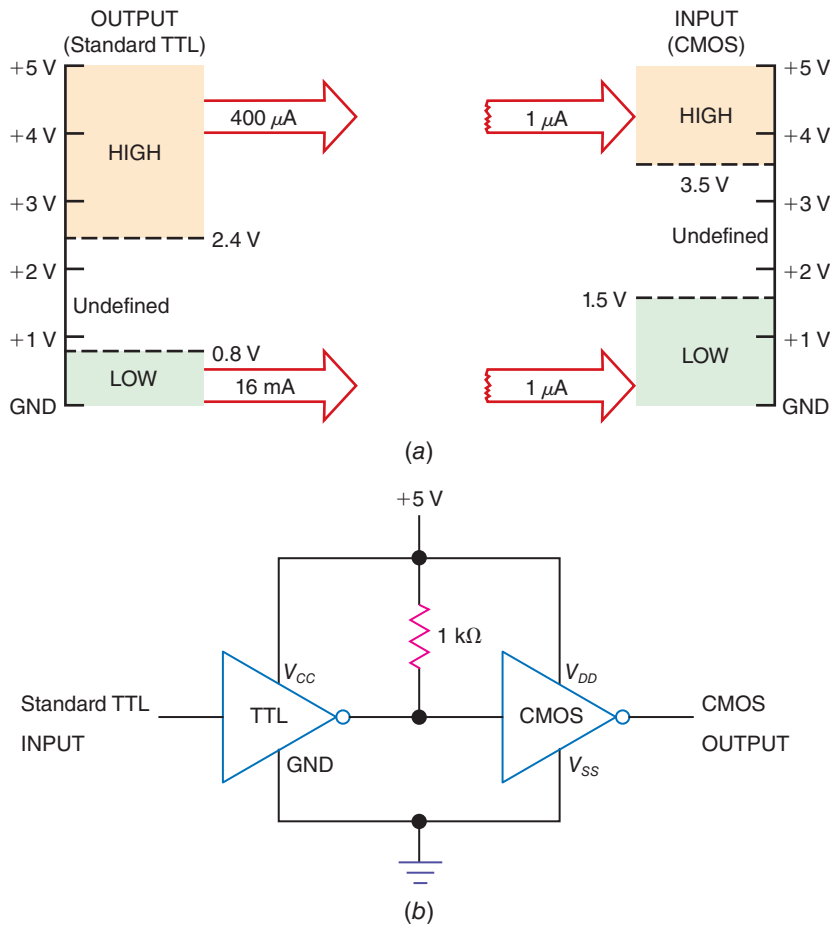

Fig. 5-21 TTL-to-CMOS interfacing. (a) TTL output and CMOS input profiles for visualizing compatibility. (b) TTL-to-CMOS interfacing using a pull-up resistor.
CMOS and TTL logic levels (voltages) are defined differently. These differences are illustrated in the voltage profiles for TTL and CMOS shown in Fig. 5-21(a). Because of the differences in voltage levels, CMOS and TTL ICs usually cannot simply be connected together. Just as important, current requirements for CMOS and TTL ICs are different.
Look at the voltage and current profile in Fig. 5-21(a). Note that the output drive currents for the standard TTL are more than adequate to drive CMOS inputs. However, the voltage profiles do not match. The LOW outputs from the TTL are compatible because they fit within the wider LOW input band on the CMOS IC. There is a range of possible HIGH outputs from the TTL IC (2.4 to 3.5 V) that do not fit within the HIGH range of the CMOS IC. This incompatibility could cause problems. These problems can be solved by using a *pull-up resistor*
between gates to pull the HIGH output of the standard TTL up closer to +5 V. A completed circuit for interfacing standard TTL to CMOS is shown in Fig. 5-21(b). Note the use of the 1-k Ω pull-up resistor. This circuit works for driving either 4000 series, 74HC00, or FACT series CMOS ICs.
The problem of voltage incompatibility from TTL (or NMOS) to CMOS was solved in Fig. 5-21 using a pull-up resistor. Another method of solving this problem is illustrated in Fig. 5-22(d). The 74HCT00 series of CMOS ICs is specifically designed as a convenient interface between TTL (or NMOS) and CMOS. Such an interface is implemented in Fig. 5-22(d) using the 74HCT34 noninverting IC.
Looking at the voltage and current profiles [such as in Fig. 5-21(a)] is a good starting point when learning about or designing an interface. Manufacturers' manuals are also very helpful.
46. Refer to Fig. 5-21(a). According to this profile of TTL output and CMOS input characteristics, the logic devices _____ (are, are not) voltage compatible.